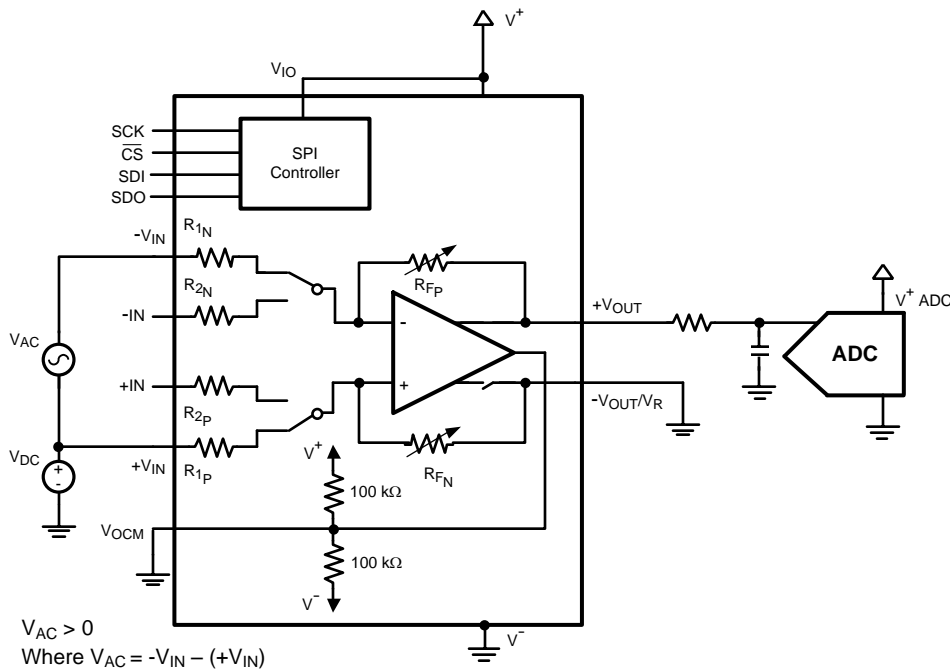

Figure 4. Unipolar Input Signal to Single-Ended ADC Interface
2. In the case of unipolar input signal the non inverting output will be connected to ground (Figure 4).